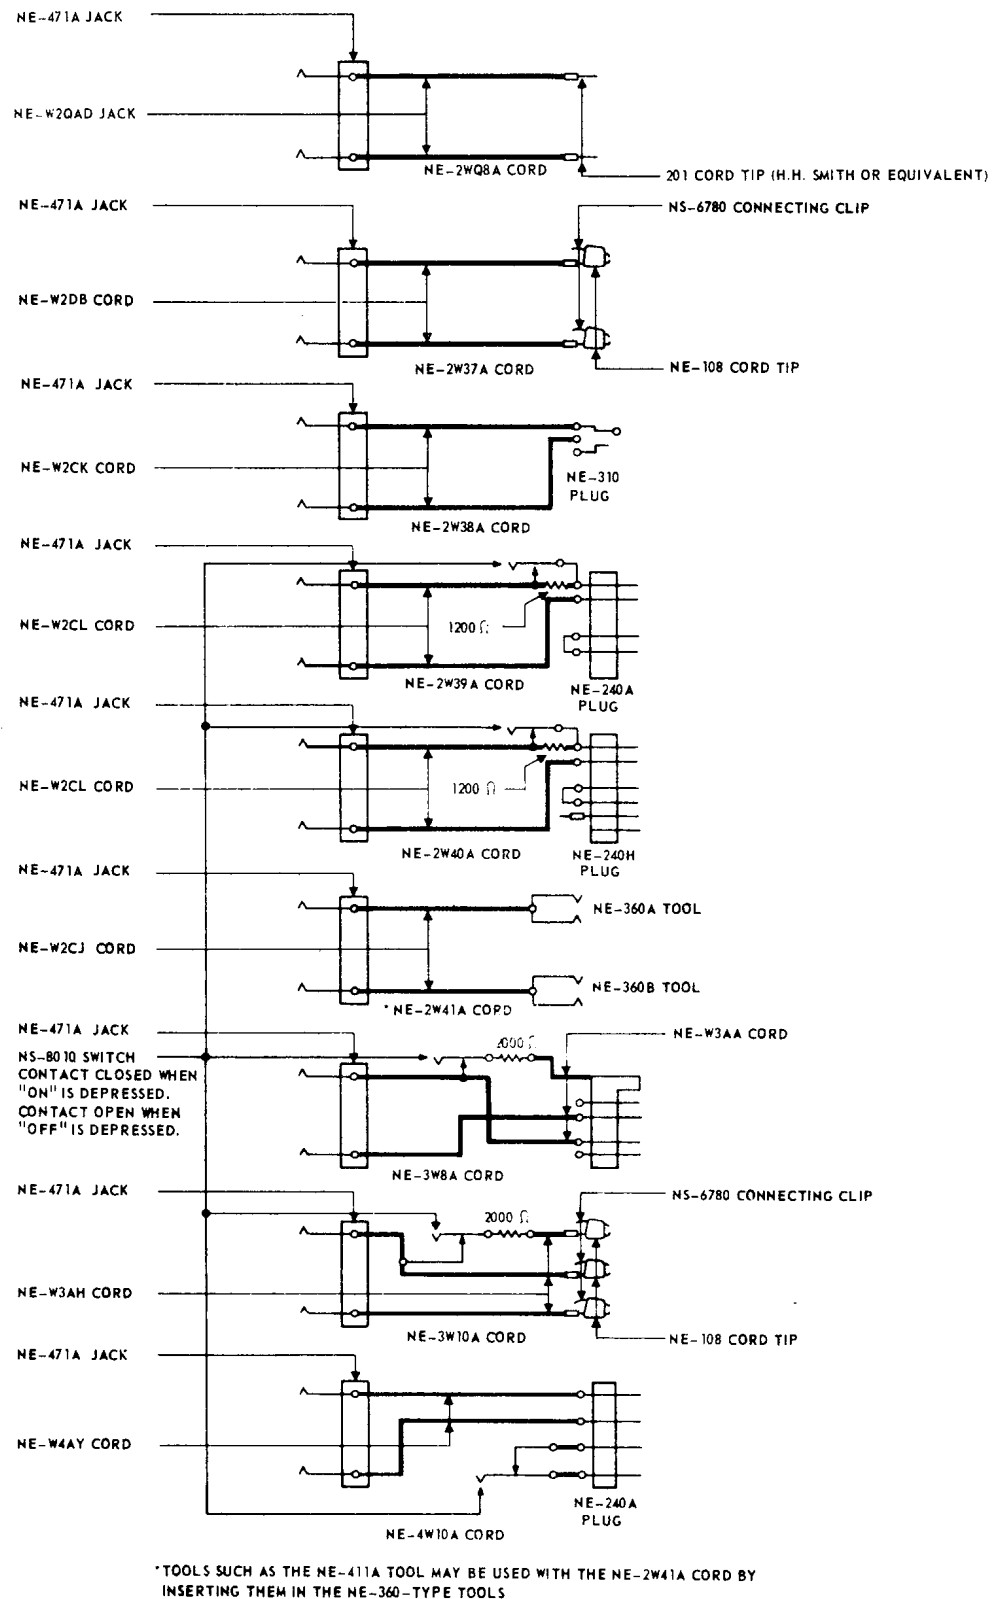

Fig. 5 — Schematics of Accessory Cords for QSE4A2 and QSE4B2 Handsets
2.06 The QSE4A and QSE4B2 handsets are the same as the QSE4A1 and QSE4B2 types respectively, except that they use an NE-H2QB cord equipped with an NE-346A plug. This plug-ended cord provides an arrangement whereby a basic coded handset can be adapted, by means of plug-in cords, to all Central Office tests requiring the use of a handset (Fig. 5).
2.07 Fig. 5 shows the schematic diagrams of the accessory cords available for use with the QSE4A2 and QSE4B2 type handsets.